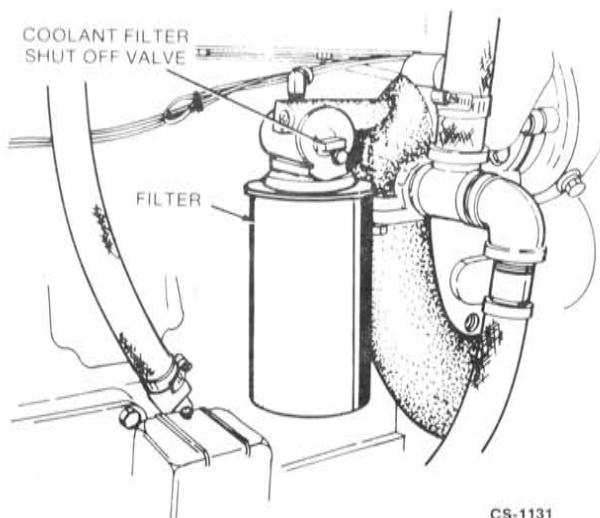

FIGURE 7. COOLANT FILTER
1. Close the shutoff valve (Figure 7).